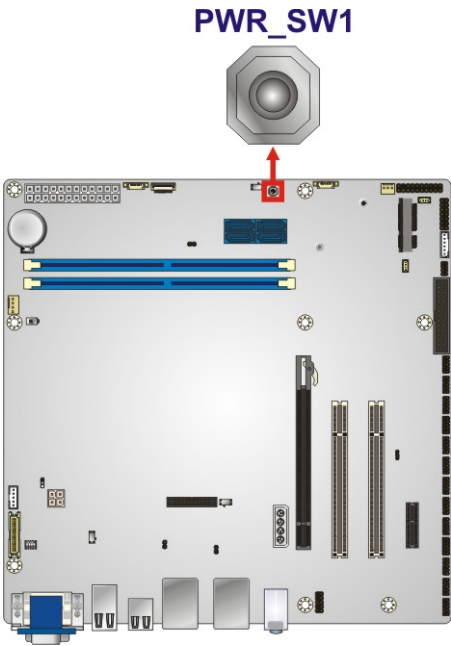

Figure 3-25: Power Button Location
- CN Location: See Figure 3-25